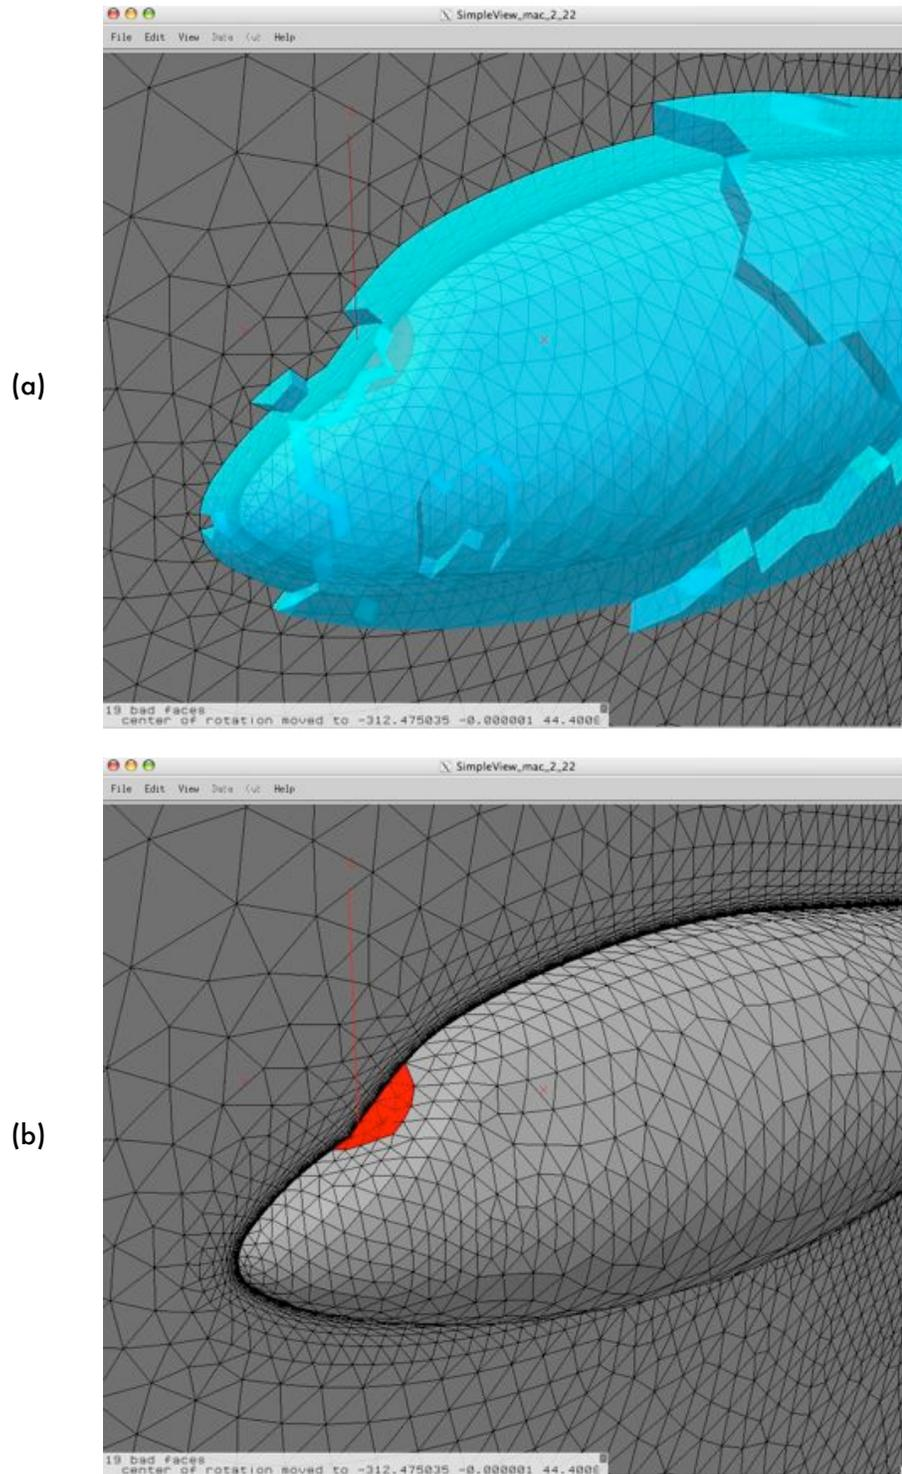

Figure 2.4.3 Display of “zero-layer faces” (shown in red) :
2. zero-layer faces occur because there is an underlying problem with the surface mesh : sometimes, even a perfectly “legitimate” surface mesh can have problem areas containing “folded” surface triangles (that is, surface triangles that have somehow been generated in such a way that they “collapse” onto adjacent surface triangles); these will always lead to further problems in subsequent stages of grid generation. In this scenario, VGRID will attempt to build layers off of the folded surface triangles, but, as part of its routine diagnostics, VGRID will determine that the very first layer off of such a “folded” triangle contains a “negative (volume) cell,” and will simply remove the problem cell (as it does whenever it encounters any “negative volume” cells at this stage). The result is that the “column” of advancing-layer type cells that is supposed to emanate from each surface triangle will have one or more missing layers in the vicinity of the folded surface triangles. This is an insidious type of error, as even a detailed visual examination of the surface mesh will not always show any obvious problems. Furthermore, this type of error is less likely to result in a completed grid (POSTGRID usually fails to complete the grid). With **SimpleView**, you are at least made aware of the problem, and the location(s) at which it occurs. In these cases, you should return to GridTool and determine the source of the anomaly in the surface mesh (checking the details of the surface patch on which the problem triangles lie is always a good first step). This scenario is shown in Figure 2.4.3; the zero-layer faces are visible (in red) through the current front.